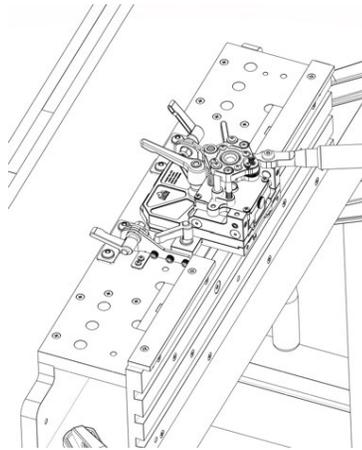

FIG. 11
1. The Miter Attachment already comes preset. To adjust and set it to a desired angle, simply loosen off the two adjustable handles located at the back of the miter attachment and attach to the stainless steel brackets. (See Figure 11)